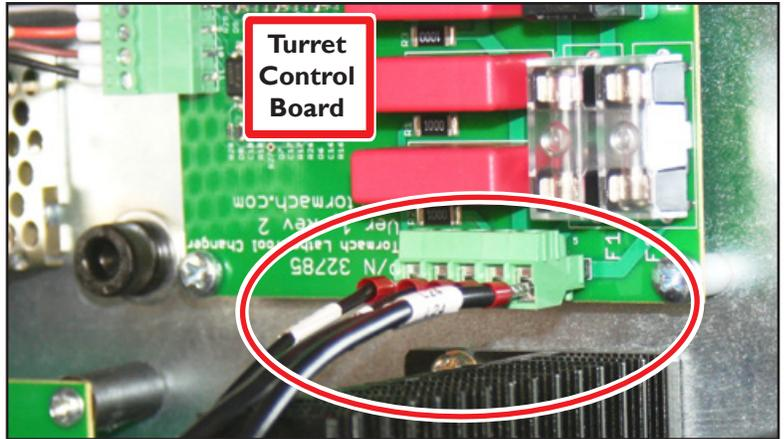

Figure 20
23. Reference **Figure 20** when making the four Turret Control Board connections.
IMPORTANT: Do not connect the items outlined in **Figure 20** at this time. This image shown is for reference purposes only. The detailed connection procedure is explained in the following steps.
24. Plug the Encoder Connector Block into the Turret Control Board as shown in **Figure 20**.
IMPORTANT: Proper alignment/orientation of Power Connector Block into the Turret Control Board is crucial to avoid damage (see **Figure 20**).